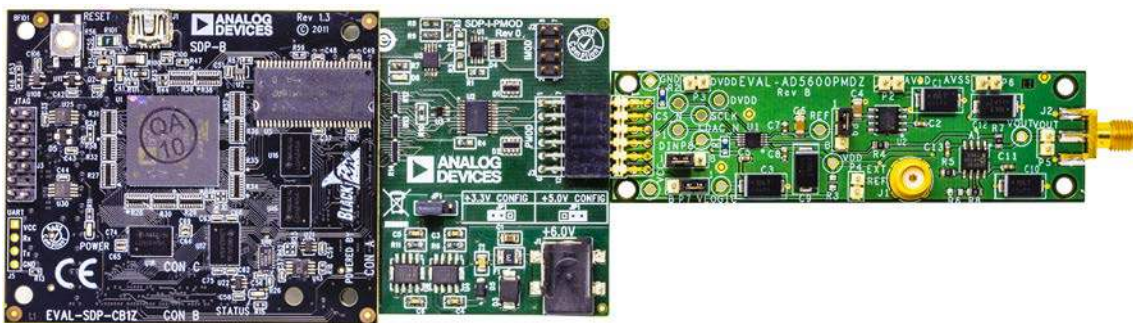

Figure 1.
The EVAL-AD5600PMDZ is compatible with any Analog Devices SDP board, which can be purchased separately. A typical connection between the EVAL-AD5600PMDZ, the EVAL-SDP-CB1Z board (SDP-B controller board), and the SDP-PMD-IB1Z is shown in Figure 1.
1. Connect the evaluation boards as shown in Figure 1, and then connect the USB cable between the SDP-B board and the PC.